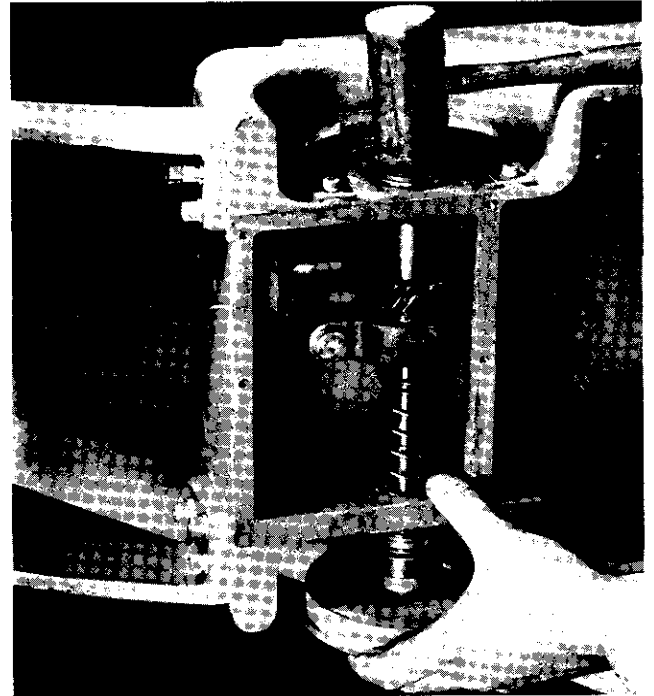

FIG. 17 – Driving Out Front Axle Group
7. Place the carriage on its side as shown in Figure 17.